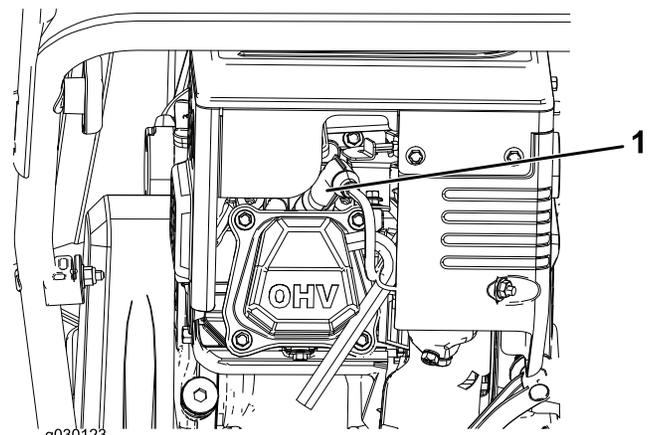

Figure 29
1. Remove the boot (Figure 29).